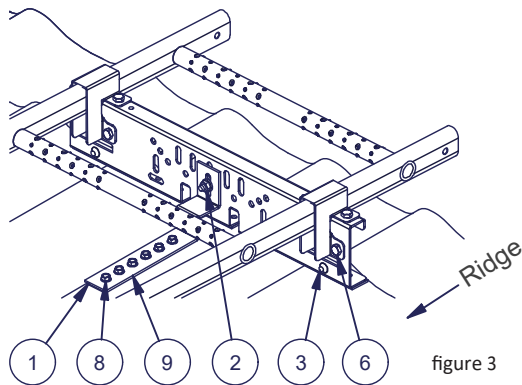
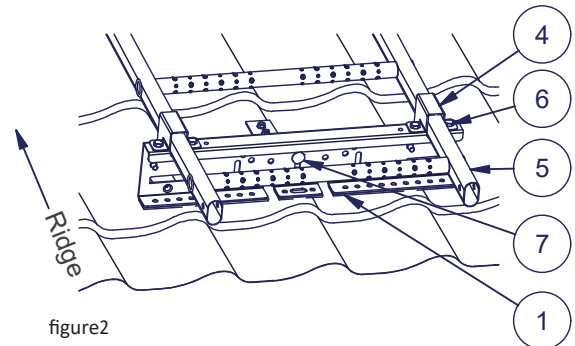
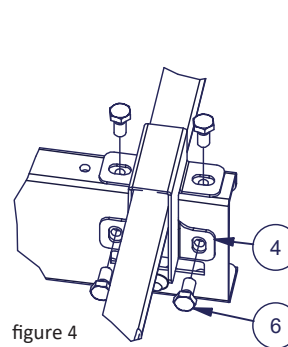
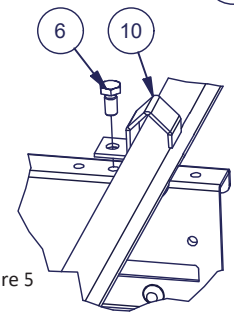

figure 3
figure 2
figure 4
figure 5
Place EPDM sealant strip (1) to the bottom of the Pisko MultiFast fastener (3) and attach them loosely to the ladder with Pisko MultiFast stile brackets (4) (4 x M8x16 / fastener). Maximum distance between fasteners is 1400 mm (figure 4). The top and bottom MultiFast fasteners of the ladder should be fixed with stile brackets (4). Brackets in between can be fixed to the ladder with Pisko MultiFast stile bracket, easyfix (10) (figure 5). Place EPDM sealant strip to the bottom of the steel roof fixing rods and loosely attach the fixing rods to the MultiFast fasteners (at least to the bottom and top fasteners (max. distance 5000 mm)) with M8x20 carriage bolt and M8 flange nut (figures 2 and 3). Place ladder on the roof. Fixing rod is attached to the ridge of the profile with six Pisko sheet metal screws of stainless steel (do not tighten too much) (figure 3). Lastly, tighten all the connections firmly.